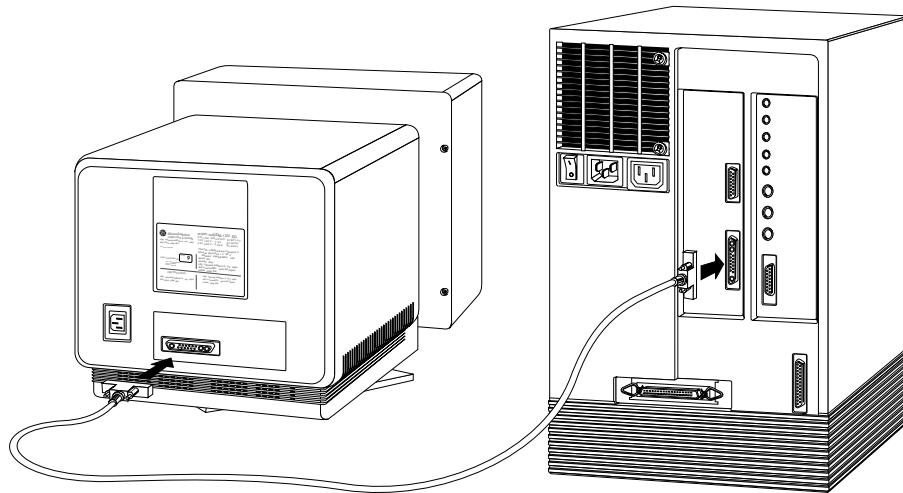

Figure 2-9 Connecting the Monitor Video Cable to the IRIS Indigo Chassis
- Connect one end of the cable to the connector on the back of the monitor, as shown in Figure 2-9. Screw in the thumbscrews on both sides of the connector.
- Connect the other end of the cable to the connector with the large monitor icon on the back of the chassis, as shown in Figure 2-9. Screw in the thumbscrews on both sides of the connector.